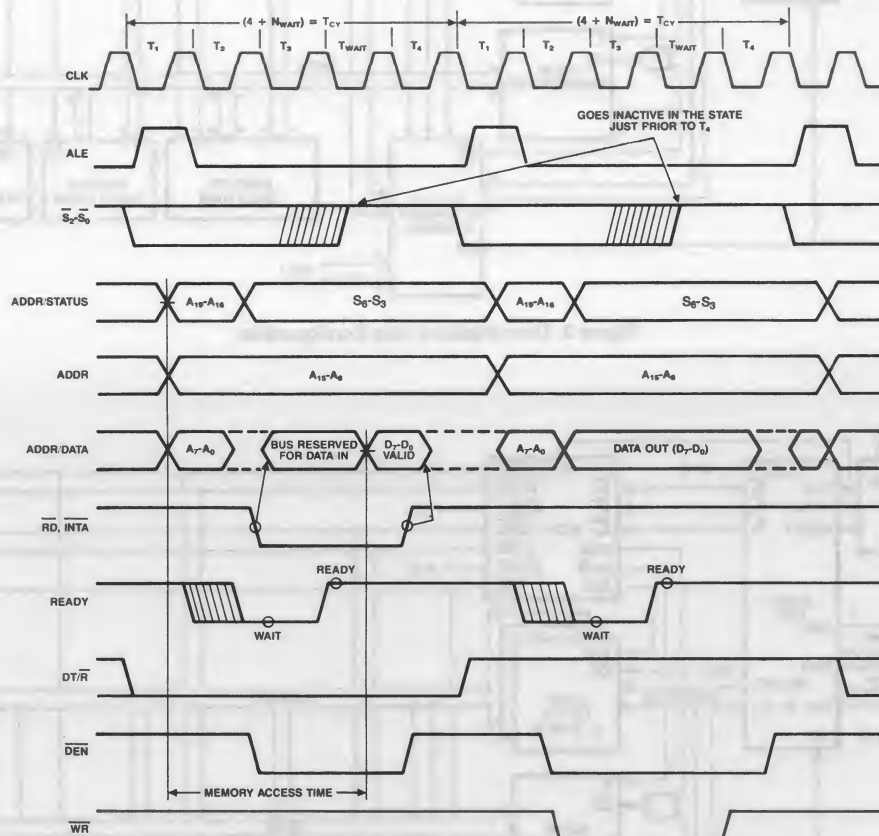

Figure 5. Basic System Timing
Each processor bus cycle consists of at least four CLK cycles. These are referred to as T1, T2, T3, and T4. (See FIGURE 5). The address is emitted from the processor during T1 and data transfer occurs on the bus during T3 and T4. T2 is used primarily for changing the direction of the bus during read operations. In the event that a "NOT READY" indication is given by the addressed device, "wait" states (Tw) are inserted between T3 and T4. Each inserted "wait" state is of the same duration as a CLK cycle. Periods can occur between 80C88 driven bus cycles. These are referred to as "idle" states (Ti), or inactive CLK cycles. The processor uses these cycles for internal housekeeping.
The read cycle begins in T1 with the assertion of the address latch enable (ALE) signal (See FIGURE 5). The trailing (low going) edge of this signal is used to latch the address information, which is valid on the address/data bus (AD0-AD7) at this time, into the 82C82/82C83 latch. Address lines A8 through A15 do not need to be latched because they remain valid throughout the bus cycle. From T1 to T4 the IO/M signal indicates a memory or I/O operation. At T2 the address is removed from the address/data bus and the bus is held at the last valid logic state by internal bus-hold devices. The read control signal is also asserted at T2. The read (RD) signal causes the addressed device to enable its data bus drivers to